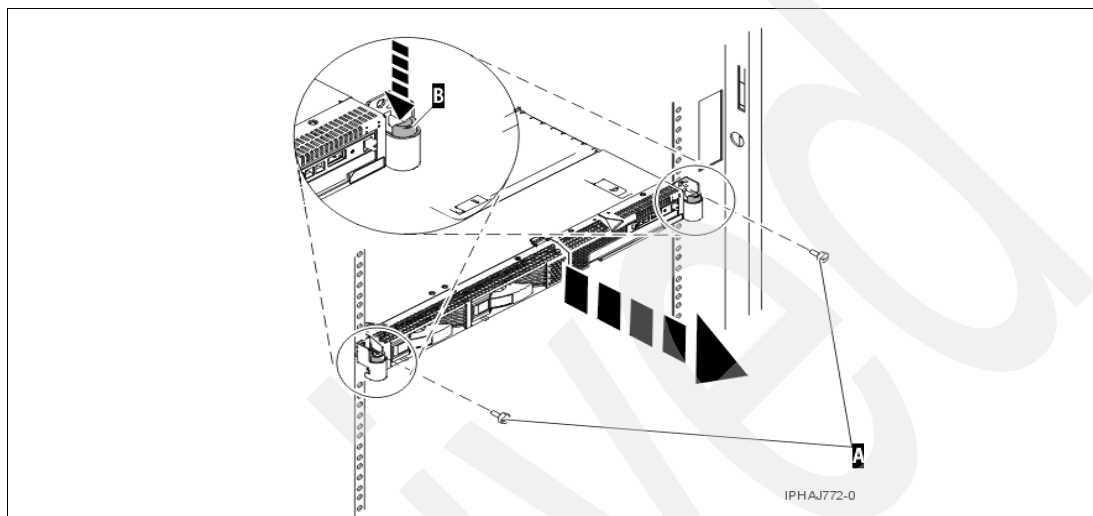

Figure 2-13 Pull the p5-505 to the service position
2. If they are present, remove the two thumbscrews, *A*, that secure the server unit to the rack, as shown in Figure 2-13 on page 54.